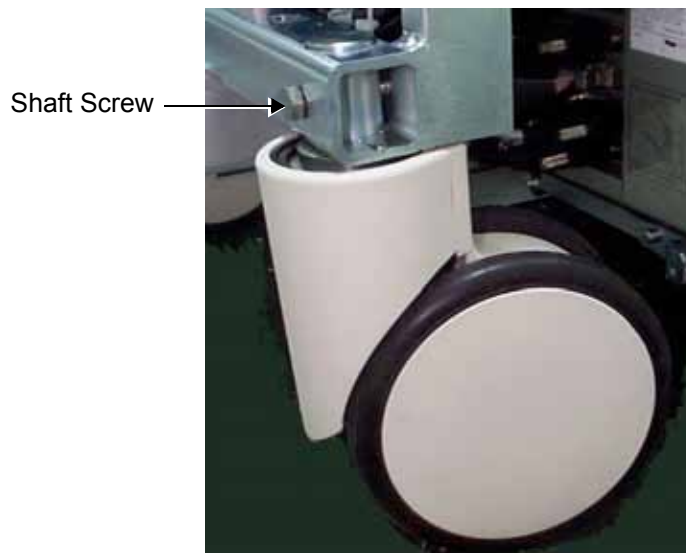

Figure 8-105 Rear Wheel Installation
- 3) Loosen the shaft screw (see Figure 8-105 on page 8-120) and remove the defective wheel from the machine chassis.
- 2) Tighten the shaft screw (see Figure 8-105 below), making sure the wheel is firmly secured.